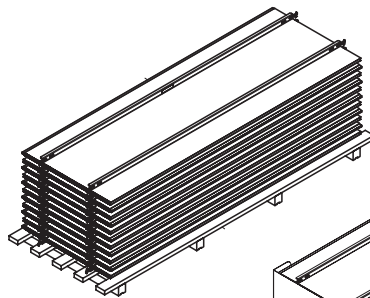
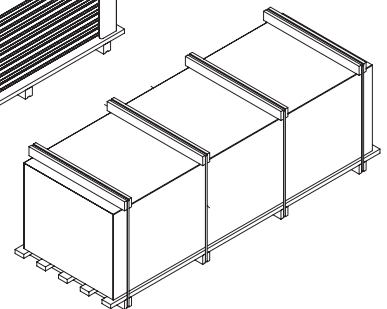

Fig. A4.03
Fig. A4.03b
- For each transport, place grooved squared timbers 8x9x105 cm on the panel stacks and secure with straps or tensioning straps. (Fig. A4.03b)
Fit the plastic covers, position the squared timber and strap the pallet around the squared timber with steel or nylon straps. (Fig. A4.03 - Fig. A4.03b)